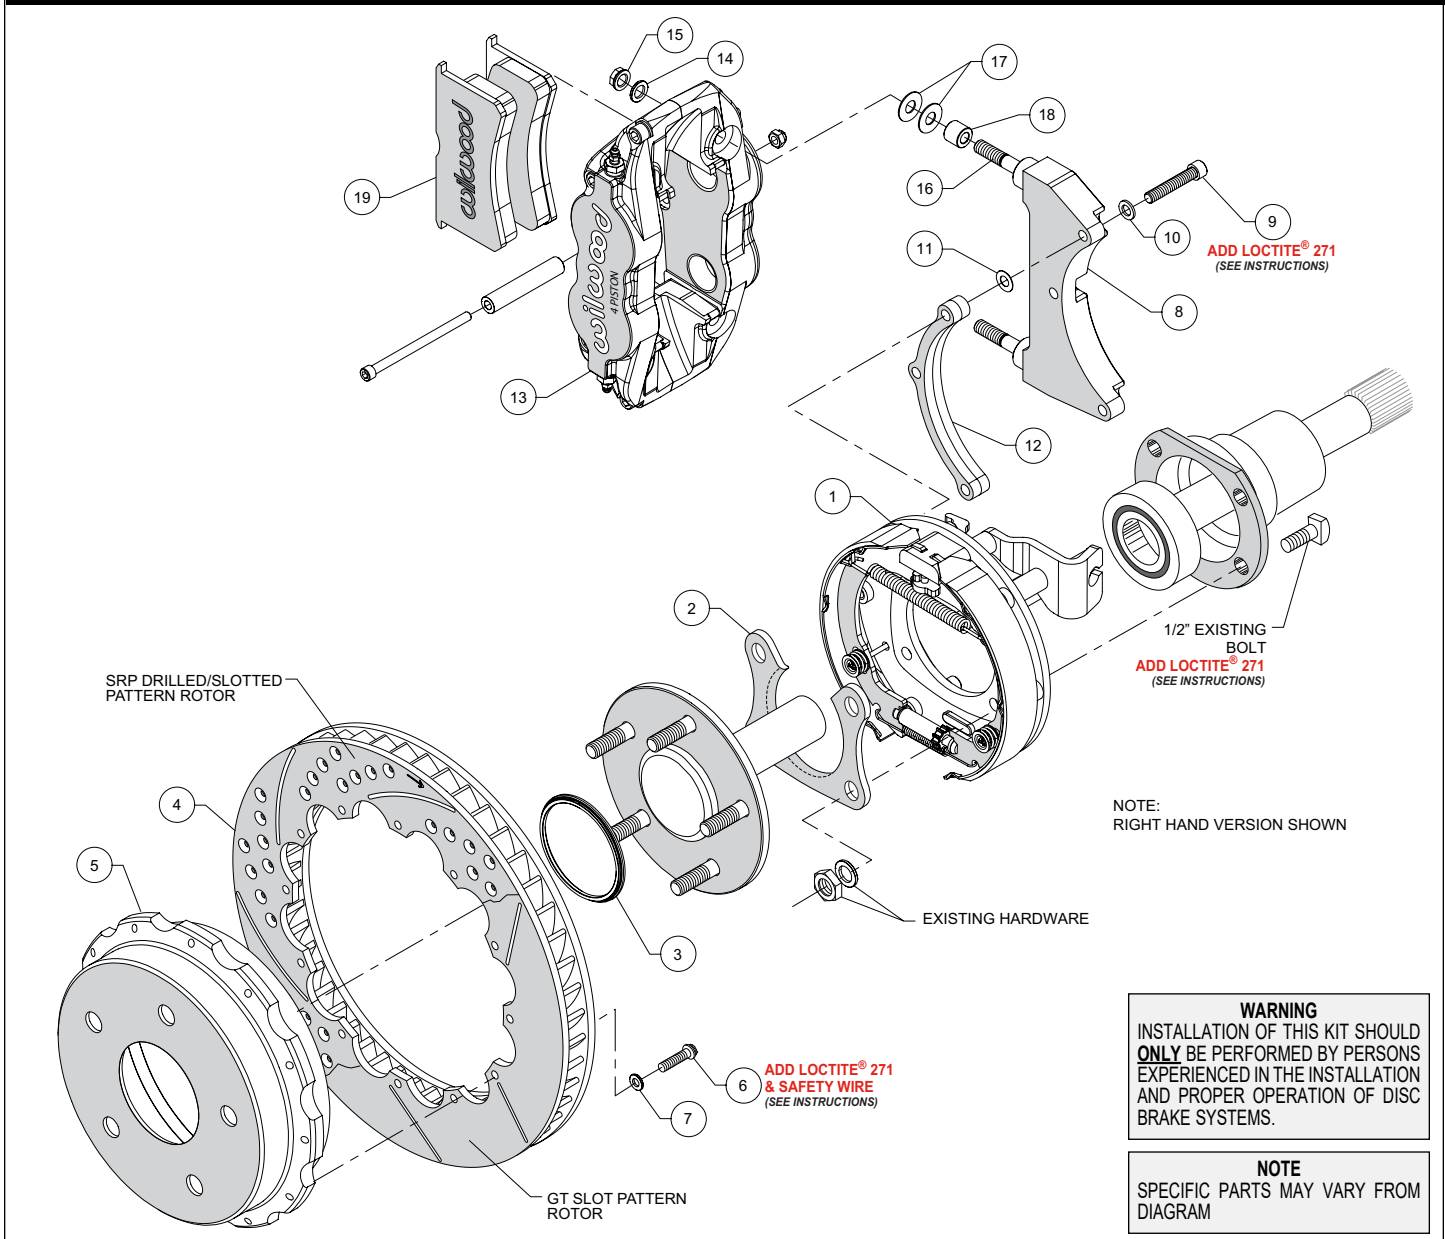
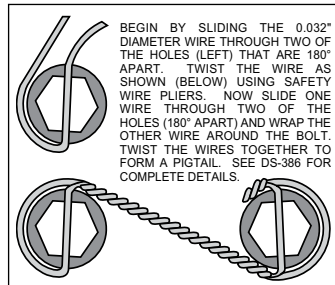

Figure 1. Typical Installation Configuration
Figure 5. Safety Wire Diagram
Assembly Instructions (numbers in parenthesis refer to the parts list, and Figure 1 on the preceding pages): **CAUTION:** All mounting bolts must fully engage clinch nuts. Be sure to check that all bolts are either flush or protruding through flanged side of clinch nut after shimming.
• Orient the bracket assembly (1) as shown in Figure 1 and Photo 1 and slide it onto the axle. Insert the axle and bracket into the axle housing. Ensure that the bracket assembly backing plate fits flush against the axle housing flange.
• Install the bearing retainer (2) with the opening pointing upward and the lip facing inward (toward the bearing), as shown in Figures 1 and 4, and Photo 2. Secure retainer and bracket assembly to the axle housing flange using the Original Equipment Manufacturer (OEM) bolts, washers, and nuts, Figure 1. Apply red *Loctite*® 271 to the OEM bolt threads and torque to OEM specifications.
•**NOTE:** Please reference the caution statement at the beginning of the assembly instructions. The caliper mounting bracket (8) should initially be installed with clean, dry threads on the mounting bolts. Orient the bracket as shown in Figure 1 and Photo 3, and install using bolts (9) and flat washers (10). Initially place one .015" shim washer (11) on each bolt between the bracket (8) and spacer (12), Figure 1. Temporarily tighten the mounting bolts. **NOTE:** End of bolt should not exceed inside face of insert. The bracket must tighten squarely against the back side of the bracket kit assembly (1). Inspect for interference from casting irregularities, machining ridges, burrs, etc. Later, after the caliper alignment has been checked, the mount bolts will be secured using red *Loctite*®.
•Orient the rotor (4) and the hat (5) as shown in Figure 1 and Photo 3. Attach rotor to hat using bolts (6) and washers (7). Apply red *Loctite*® 271 to the bolt threads and torque to 140 **in-lb** using a criss-cross pattern. For an added measure of security, the bolts may be safety wired using standard 0.032 inch diameter stainless steel safety wire as shown in Figure 5. Please refer to Wilwood's data sheet DS-386 (available at www.wilwood.com/Pdf/DataSheets/ds386.pdf) for complete safety wire installation instructions.
•Slide the rotor registration adapter (3) onto the axle register on the axle flange with the smaller O.D. facing toward the rotor/hat (4/5), Photo 5. Align the hole pattern in the hat with the stud pattern on the axle flange and slide into place, Figure 1 and Photo 6. **NOTE:** The rotor/hat must fit flush against the axle flange or excessive rotor run out may result. Install three lug nuts (finger tight) to keep the rotor/hat assembly in place while continuing with the installation. **NOTE:** Some OEM and after market axles come with stud sizes larger than 0.50" diameter. Verify stud size and have a qualified machine shop drill the bolt circle of the hat/rotor to the correct stud size, if necessary.
•Initially place two .035" thick shims (17) and spacer (18) on each stud as shown in Figure 1 and Photo 7. Mount the caliper (13) onto the bracket (8) using lock nuts (15) and washers (14), Figure 1. Temporarily tighten the lock nuts and view the rotor through the top opening of the caliper. The rotor should be centered in the caliper, Photo 8. If not, adjust by adding or subtracting shims (11) between the bracket (8) and the spacer (12). Always use the same amount of shims on each of the three mounting bolts. Once the caliper alignment is correct, remove the bracket mounting bolts (9) one at a time, apply red *Loctite*® 271 to the threads, and torque to 180 **in-lb**.